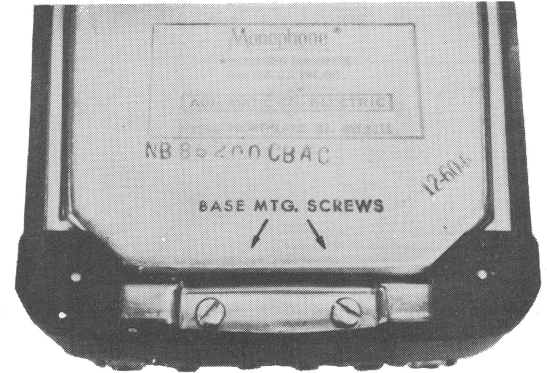

Fig. 2. Base of Type 86 Telephone showing Location of Designation Number
1.03 Two different transmission circuits have been used with the Type 86 telephone. The first two letters of the telephone designation number (See Fig. 2) identifies the transmission circuit used: